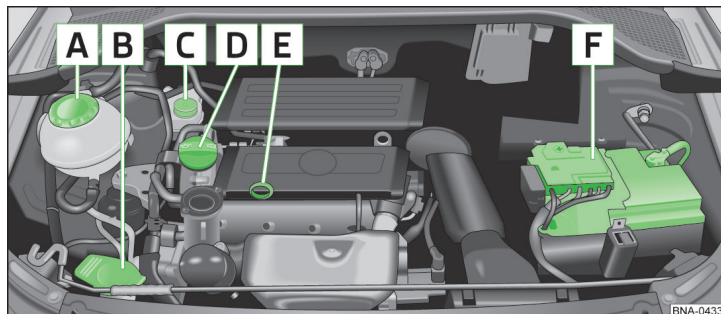

Fig. 77 Arrangement (example) in the engine compartment
- Unscrew the cap of the engine oil filler opening **D** » fig. 77 on page 78.